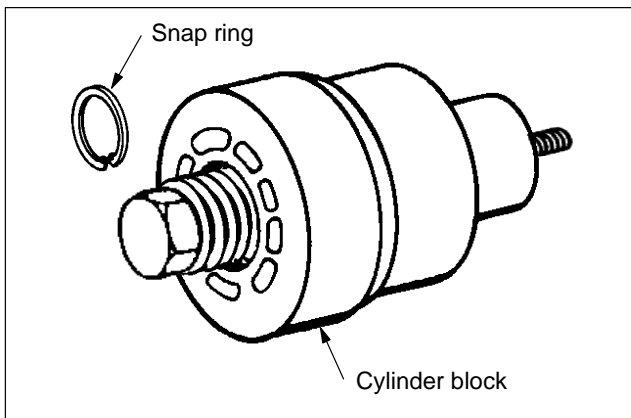
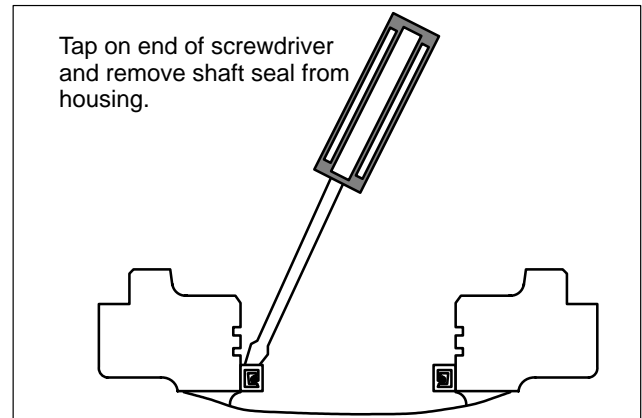

Figure 19: Cylinder Block Disassembly Tool.
Figure 24: Shaft Seal Removal.
DO NOT remove retaining ring (30) from cylinder block (29) because spring (32) is under high compression. Bodily harm may result if the retaining ring is removed without adequate caution. In most cases, the parts inside the cylinder block will not require removal. However, if spring (32) is damaged, the parts within the cylinder block must be removed. See Figure 19 for disassembly instructions.
1. Remove roller bearing (46) from housing (51). Also remove saddle bearings (42 & 43) and inspect for wear.
2. Inspect roller bearings (23 and 44) for pitting and cracks. Turn roller bearings in their associated bearing race and check for roughness and bind. The roller bearings must turn freely within the bearing race with no signs of bind. If a roller bearing shows evidence of bind, wash the bearing in a clean solvent and recheck for bind. If binding persists, replace the roller bearing and race. Refer to Figures 19 and 24 for the bearing race removal procedure.
3. Remove retaining ring (45) from housing (51) with Truarc pliers.
4. Remove shaft seal (46) from housing (51). Refer to Figure 24 for instructions.